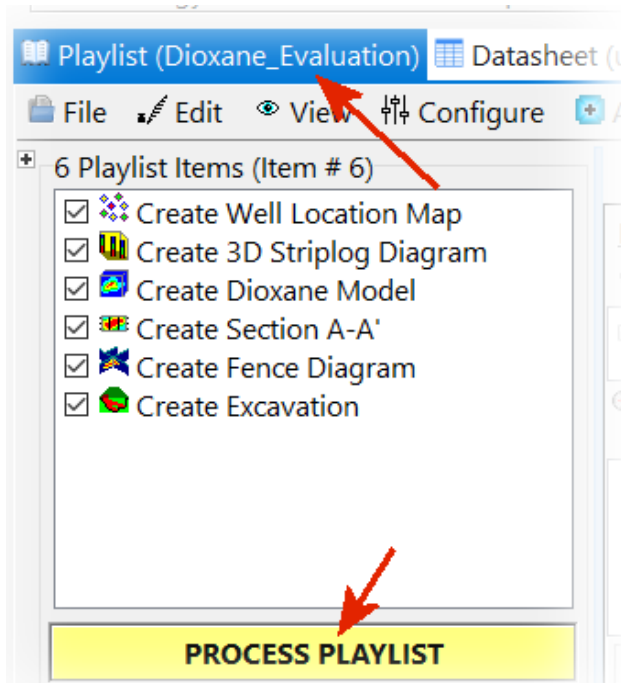

Figure 100
- Make sure that the “Dioxane_Evaluation” playlist is loaded and click on the *Process Playlist* button (Figure 100).